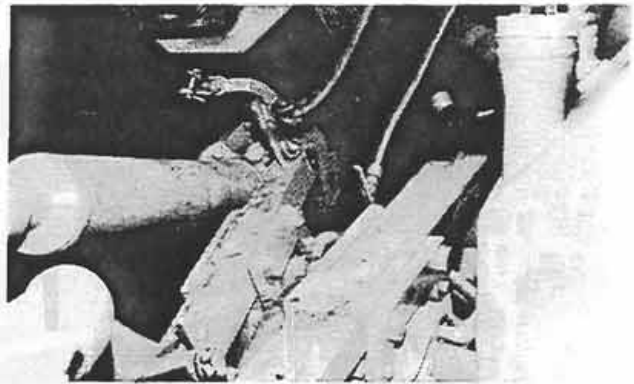

Figure 5:
1. Remove the brake mount bar(s) intact with caliper assemblies and lines still connected (Fig. 5).